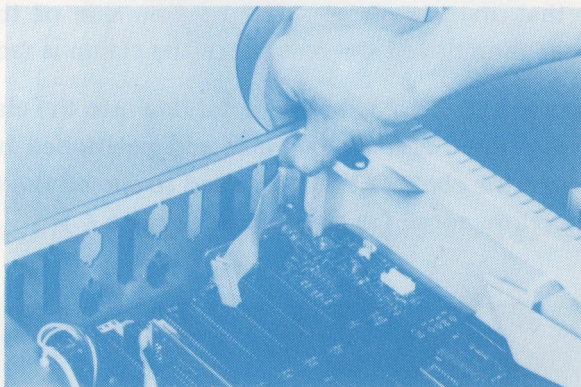

FIGURE 5 Positioning of the Clamp
- FIGURE 5 : Positioning of the Clamp
- I) Hold the clamp against the opening with one hand as shown in Figure 5. Reach behind the computer with the other hand, and install screws through the two slots on the top and bottom of the opening into the nuts on the clamp.